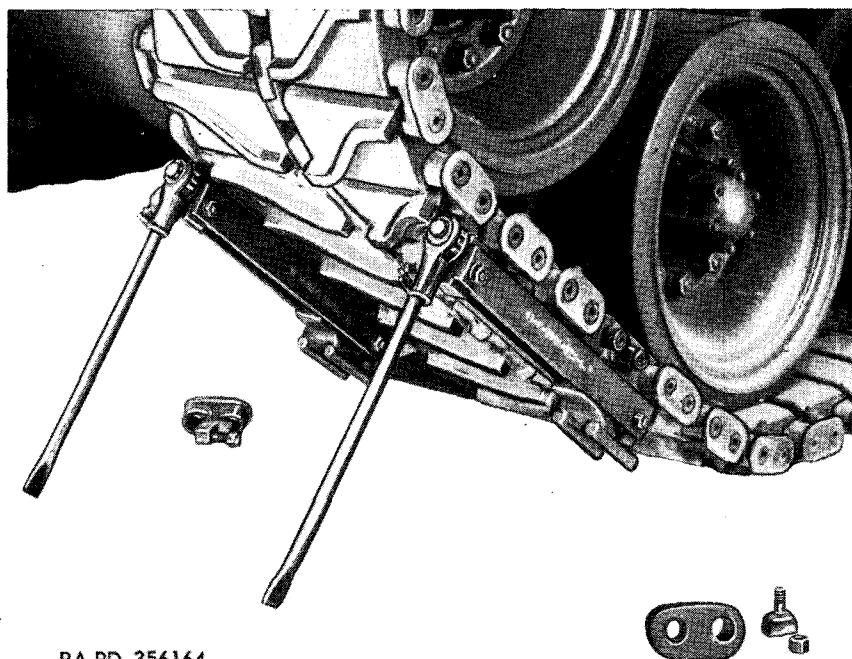

Figure 250. Disconnecting track using fixture 41-F-2995-200.
b. **DISCONNECTING TRACK.** Remove wedge nuts and wedges from one pair of opposite end-connectors (fig. 248). Install the track connecting fixture 41-F-2995-200 (which consists of a left track fixture 41-F-2995-275 and a right track fixture 41-F-2995-375) on the track link end connector (fig. 249), and remove the connectors. Install the track connecting fixtures from below the track, on the inner and outer ends of the links, so that the opposite hooks on the fixtures fit around the exposed ends of the link pins from which the connectors were removed (fig. 250). Adjust the fixtures so that the loads on the track guide and guide cap are relieved. Remove the guide cap nut and bolt and remove the track guide and guide cap (fig. 248). Loosen and remove the track connecting fixtures.
c. **CONNECTING TRACK.** Install the track connecting fixture 41-F-2995-200 (fig. 250) so that the opposing hooks fit around the ends of the track link pins. Adjust the fixtures evenly until the track links are in the proper positions to install the track guide and cap. Install the track guide, guide cap, and guide cap bolt and nut (fig. 248). Tighten the nut to 300 lb-ft torque. Remove the track connecting fixtures. Install the track end connectors. Install the wedges. They may be tapped lightly with a small hammer, but do not pound them to their seats. Install the wedge nuts and tighten to 120-140 lb-ft torque. Adjust the track tension (*a* above).
e. **CLEANING AND INSPECTION.** Cleaning and inspection of the tracks for wear limits can be accomplished without removing tracks from vehicle. A preliminary visual inspection of track for wear will determine the best place to check for excessive wear ((2) below).